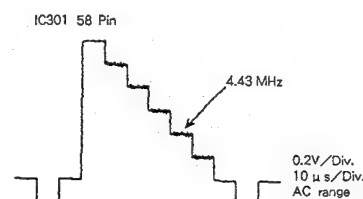

Fig. 3-4
- (1) Receive a PAL color bar signal.
- (2) Connect an oscilloscope to IC301 pin 58.
- (3) Adjust TC301 to minimize 4.43 MHz chroma components. (See Figure 3-4)